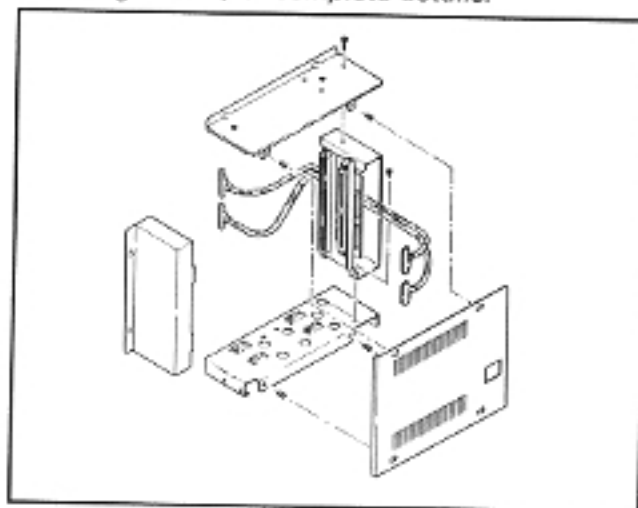
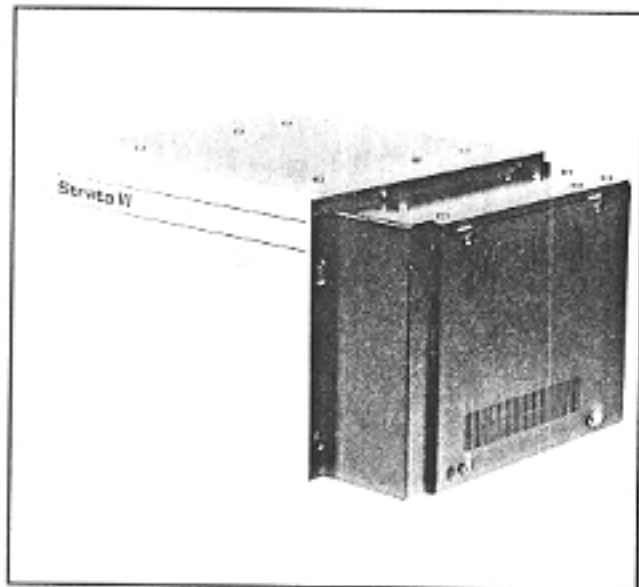

FIGURE 3—KBXU
FIGURE 4—MKSU/KBXU
02.11 An optional expansion module (KBXU) for the MKSU is available to accommodate the Station Message Detail Recording (SMDR) and the Off-Premise Extension (OPX) feature. The KBXU mounts on the right-hand side of the MKSU (Figure 3) and provides mounting space for one MOPU PCB (OPX) and one MSMU PCB (SMDR). With the KBXU attached to the MKSU, the overall width (Figure 4) increases to 16.00" (405 mm).